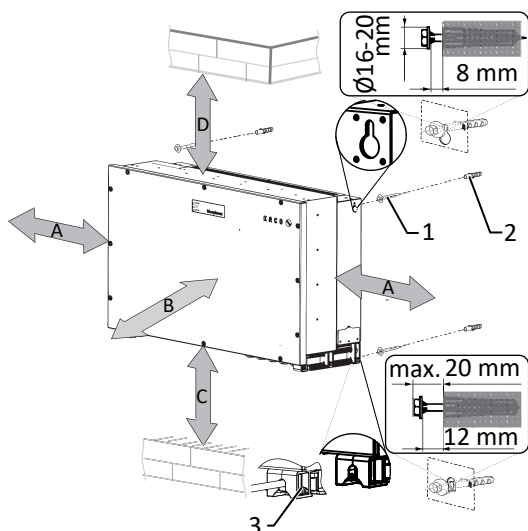

Fig. 18: Wall mounting
2. Hook the device into the 4 fastening screws for the wall / mounting frame by way of the rear keyholes. Make sure that all screws are seated properly so that the back of the device is flush with the wall / mounting frame ([See figure 18 ▶ Page 18]).
3. Insert the enclosed locking screw into the hole of the pedestal / carrying handle and secure it with the nut. ([See figure 18 ▶ Page 18]).
4. Optional: Insert your own safety lock into the designated hole in the pedestal / carrying handle and lock it to prevent it from being lifted out. ([See figure 18 ▶ Page 18]).